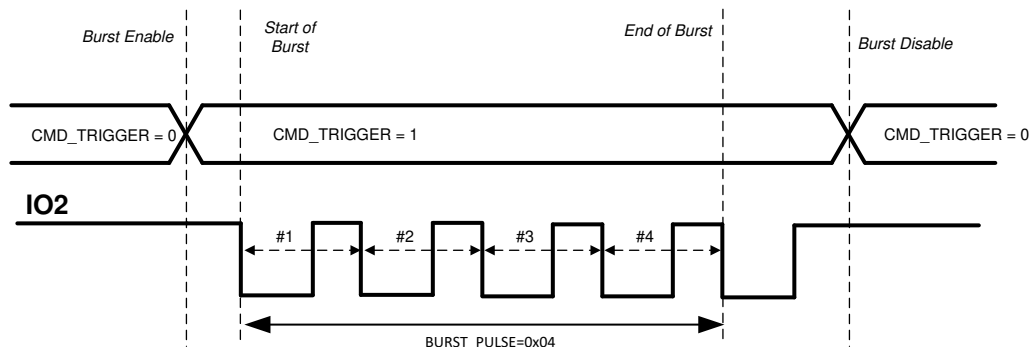

Figure 15. IO_MODE 0 Description
- **IO_MODE = 0:** In this mode, the external clock for the transducer is applied at the IO2 pin and the burst mode is enabled by setting the CMD_TRIGGER in the TOF_CONFIG register through SPI, as shown in Figure 15. The device then expects a clock at IO2 pin to generate pulses on the OUTA/OUTB pins. The start of burst happens from the first falling edge of IO2. The number of pulses are counted by counting falling edge to next falling edge transitions on IO2 once the start of burst is triggered. The end of burst sequence is signaled when the number of pulses defined in BURST_PULSE are sent, or when the CMD_TRIGGER = 0 is set through SPI, whichever occurs earlier. TI recommends that IO2 is held high before burst enable to count the number of pulses correctly. After the start of burst, the state of OUTA and OUTB pins are determined by IO1 and IO2 pins as shown in Table 23. A transition of CMD_TRIGGER from high to low to high again is